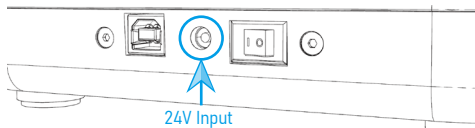

Figure 12
01. Insert the power adapter into the power input interface of M1S (Figure 12 below), then power on the power adapter and turn on the power switch of M1S. Then the screen of M1S lights up.